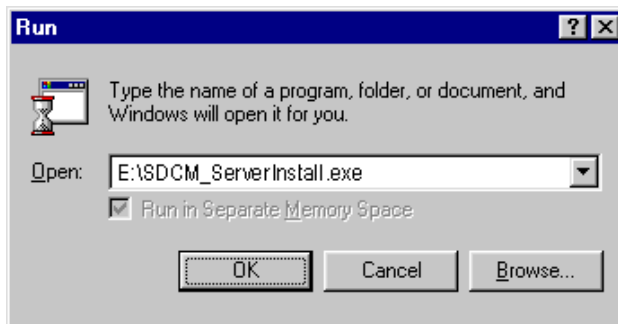

Figure 3-37: Run Dialog box
- a. At the SDCM server or other personal computer (PC) with Internet access, open the Compaq website. The uniform resource locator (URL) is <http://www.compaq.com/products/storageworks/director64>
4. At the Windows NT Workstation menu, select Run. The Run dialog box (Figure 3-37) appears.